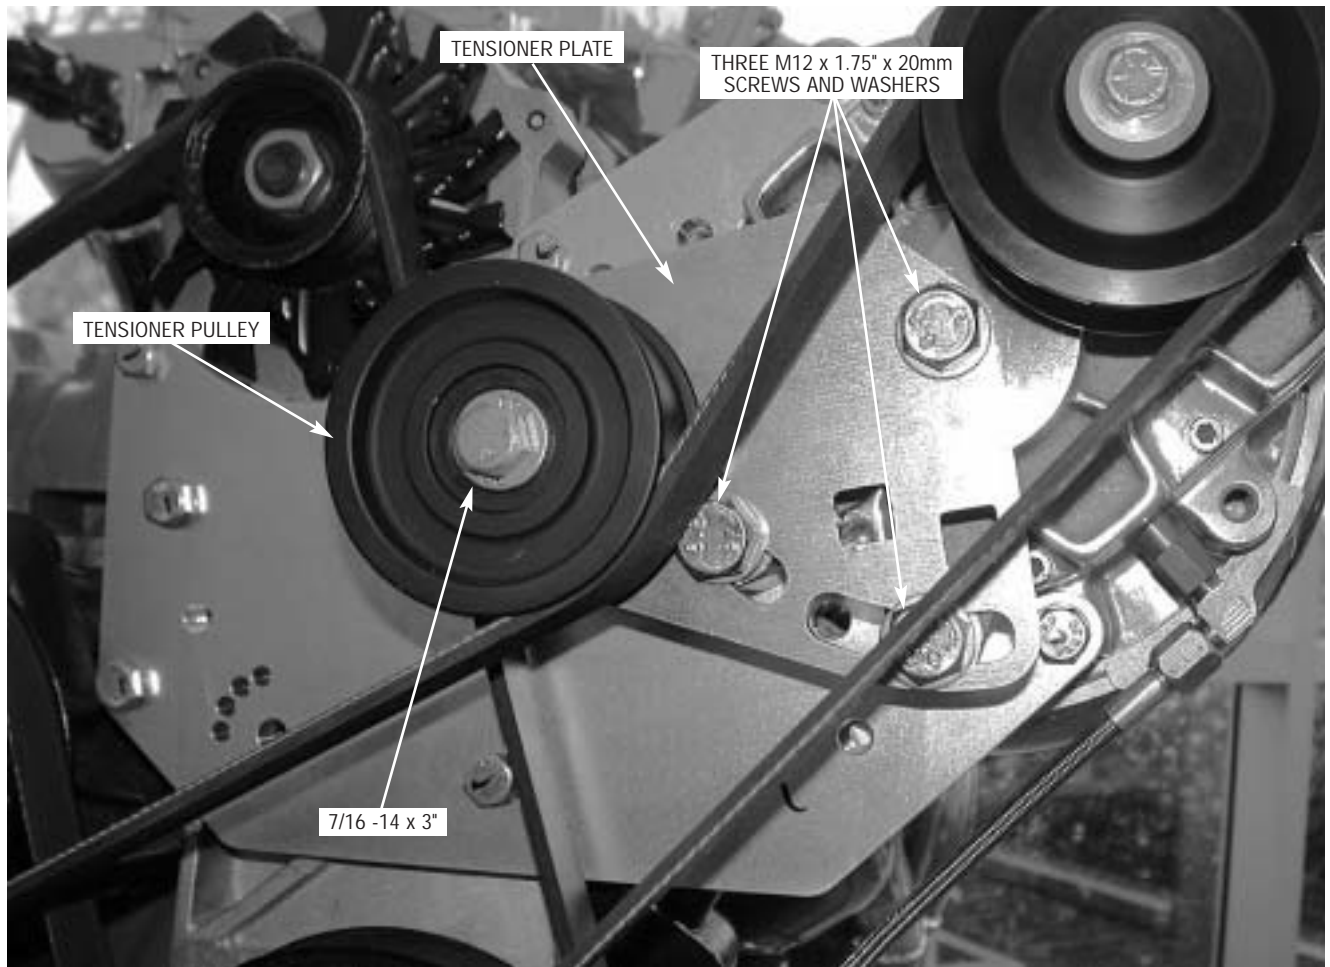

Fig. 5-b
- F. Loosely install the belt tensioner assembly onto the supercharger using the M12 hardware provided. Locate the supplied 10-Rib supercharger drive belt and install between the crank pulley and supercharger pulley. Using a 1/2" ratchet, apply tension to the supercharger drive belt and secure the three M12 screws previously installed. (See Fig. 5-b.)